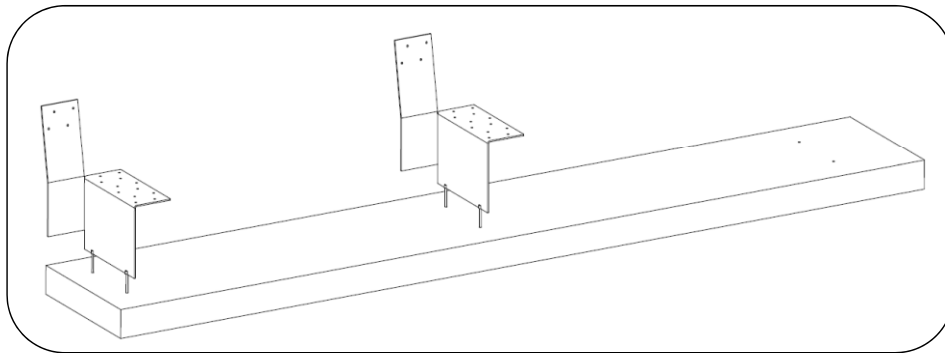
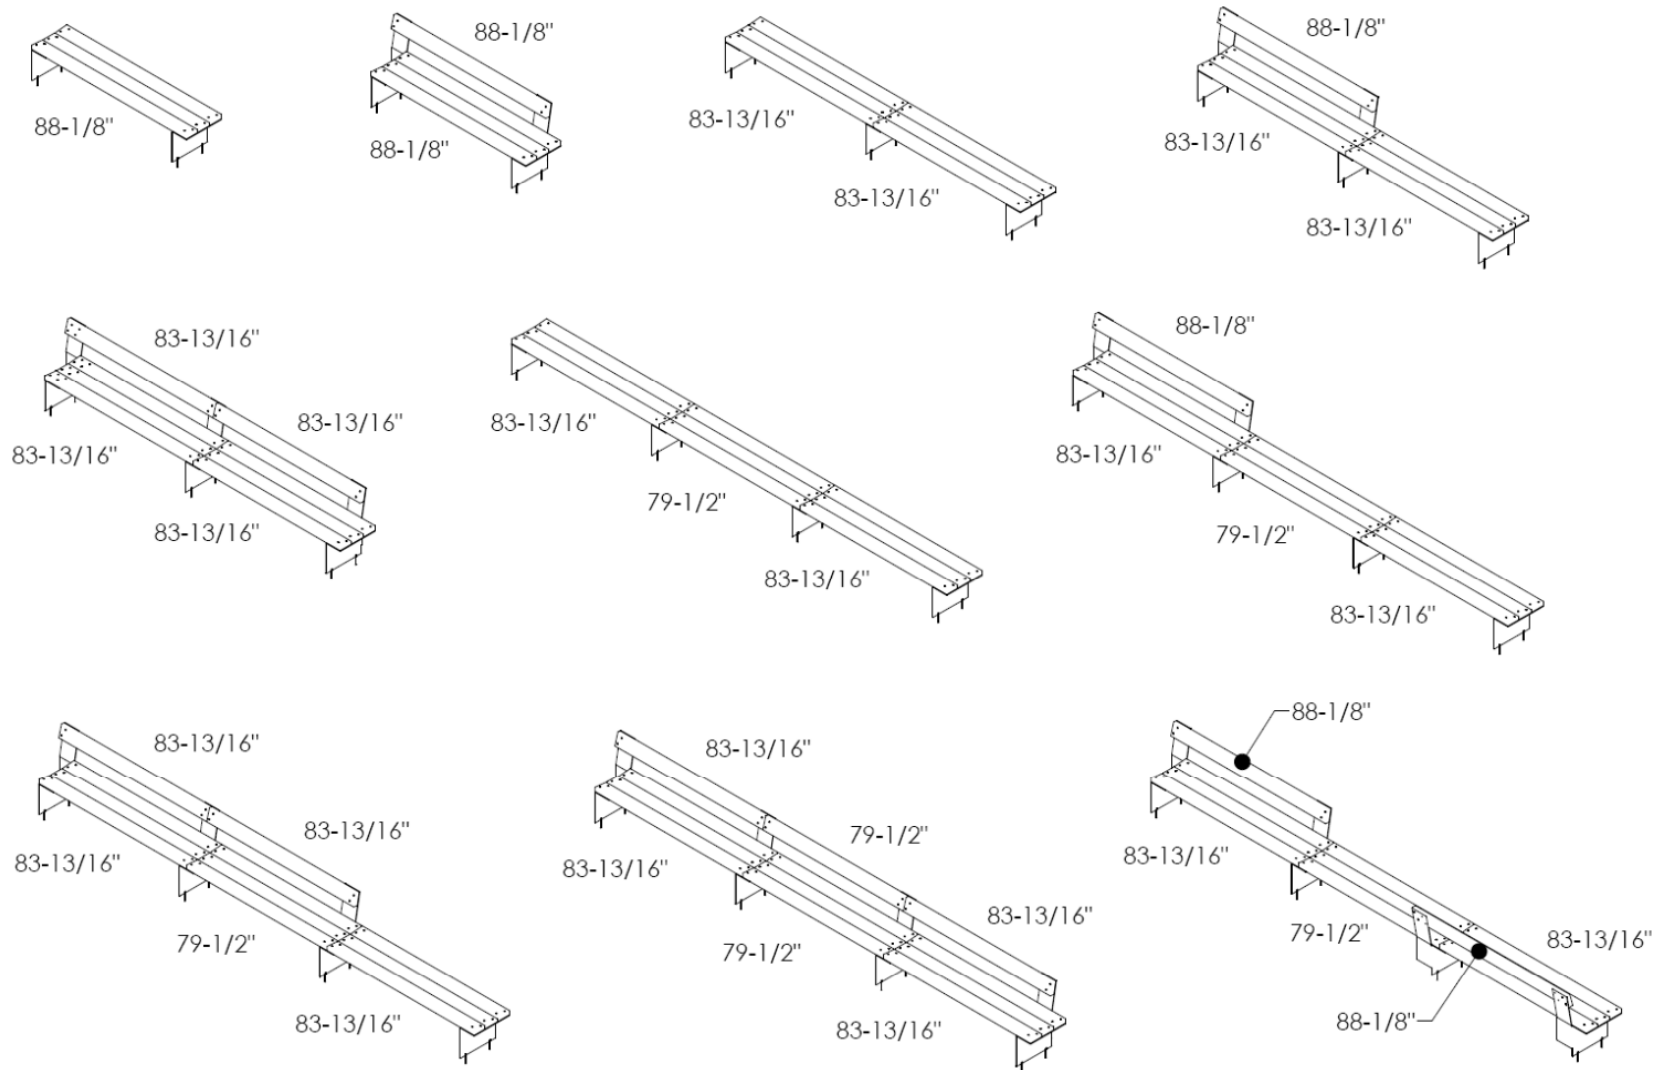

Fig. 4 – Step 1
Fig. 8 – Board length locations and support orientations
Note: Interior seat boards are rectangular. Remaining boards are wedge-shaped. Seat boards and backrest boards may be different lengths. Refer to Fig. 8 for proper location of boards, depending on bench length.
3. Position first two supports so threaded rods drop into the drilled holes as shown in Fig. 4. Refer to Fig 8 for support placement for different bench styles.
2. Position first two supports as close to the drilled holes as possible without blocking access for dispensing adhesive. Refer to Fig 8 for support placement for different bench styles.